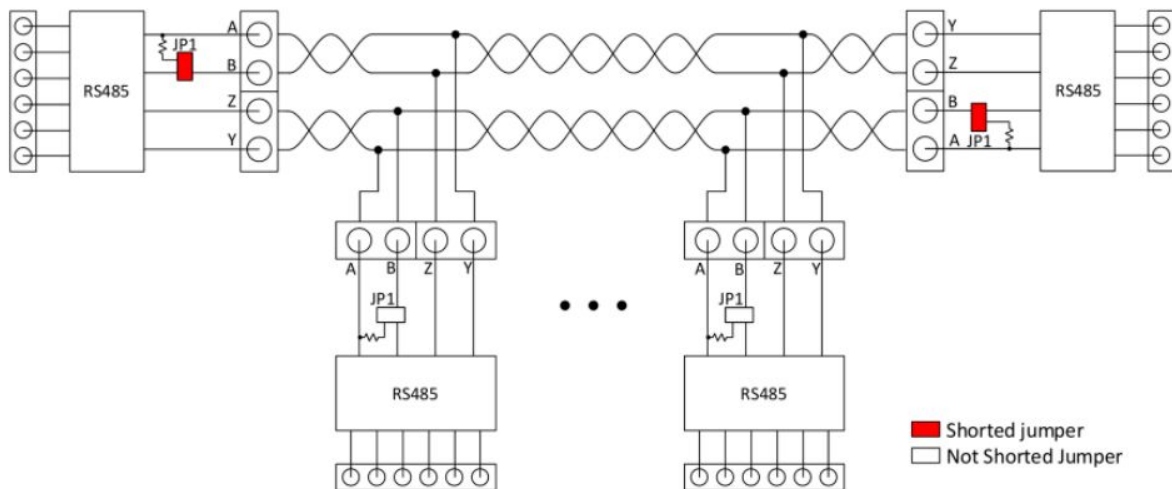

Figure 3: RS485 bus connections for full duplex communication
- Pin RxD (3) of the PmodRS485 module must be connected to the Rx of NextPM (pin 4 on the connector).
- Pin TxD (2) of the PmodRS485 module must be connected to the Tx of NextPM (pin 3 on the connector).
- For wiring with the RS485 network, see the document entitled: "pmodrs485_rm.pdf" and figure 3 (full duplex).
- Pin /RE (1) of the PmodRS485 module must be connected to the ground (pin 1 or 6) of NextPM connector.
- Pin DE (4) of the PmodRS485 module must be connected to Vdc (pin 2 of NextPM connector).